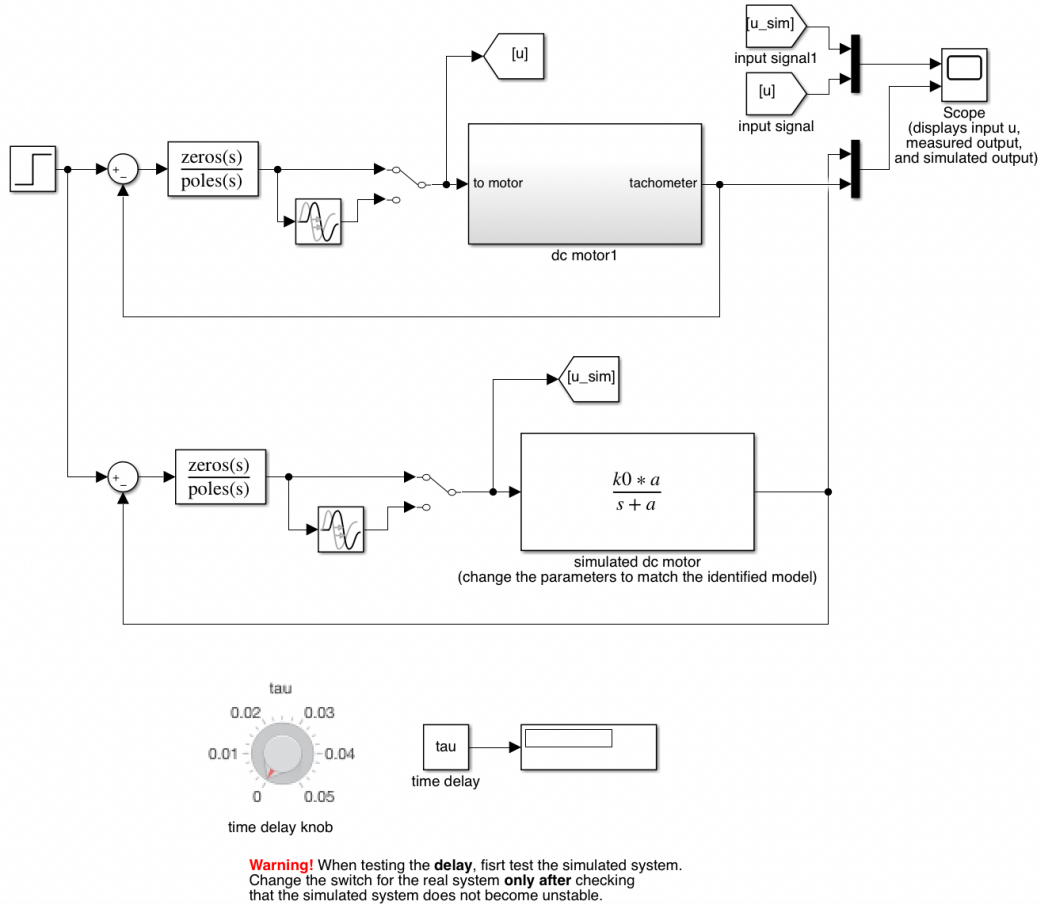

Figure 4: Simulink model for velocity control
- Open the simulink model `dc_motor_control_MI016E4.slx` or `dc_motor_control_PCI16E4.slx`, depending on the interface board of your computer (see Fig. 4).
4.4. (L) With the parameters k_1 and z computed in 4.1., run experiments and evaluate the step response of the closed-loop system. Compare the response of the real system with that of the simulated system and discuss the differences.